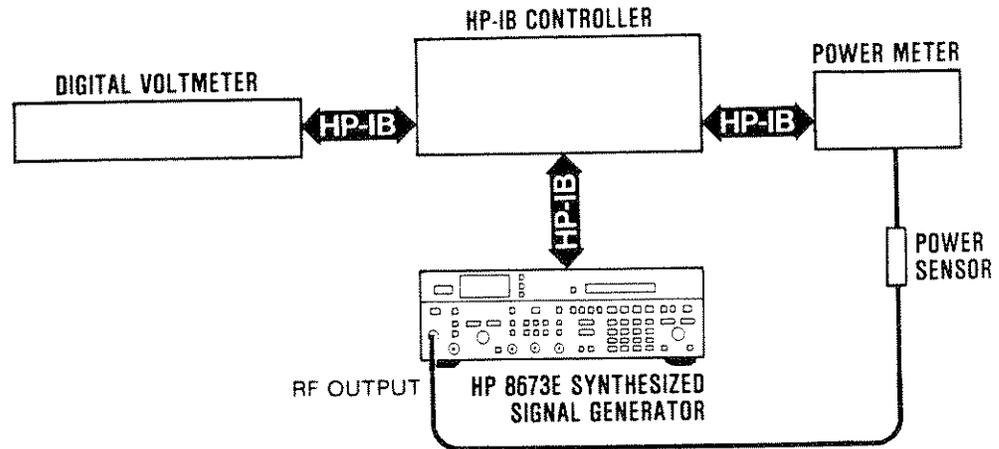

Figure 5-28. Flatness and ALC Adjustment Test Setup
3. Connect the equipment as shown in Figure 5-28.